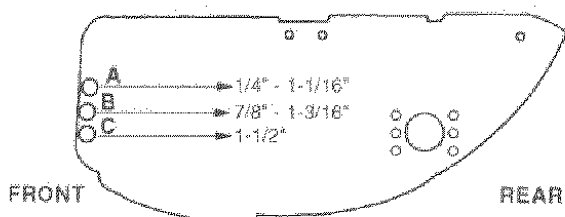
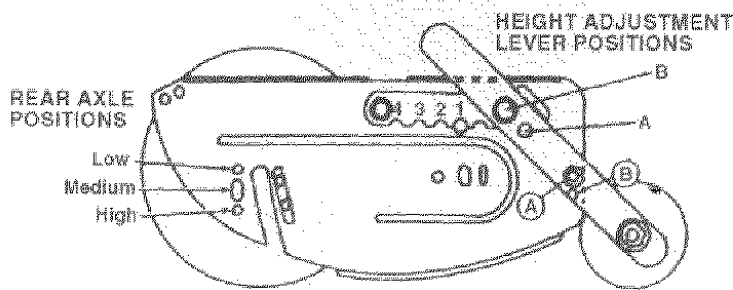

FIGURE 9: Use the front wheel assembly cutting height adjustment holes and height adjustment lever to set the cutting height of the mower.
FIGURE 10: Rear axle positions; height adjustment lever positions
Three holes in the mower side panels (see Figure 9) allow the position of the front wheel assembly bar to be changed to obtain the desired cutting height range.
Once the desired cutting range is set, the cutting height adjustment lever (see Figure 10) is placed in one of four preset positions (notch 1 through notch 4) to select the desired cutting height (see Table 1).
NOTE: When changing the position of the front wheel assembly, the "pivot point" locations of the cutting height adjustment lever must also be changed. When using adjustment hole "A" or "B" hole in the side panel (see Figure 9) for the front wheel assembly position, the "pivot point" locations for the cutting height adjustment lever (see Figure 10) must also be changed to the "A" or "B" positions, as appropriate. When using adjustment hole "C" in the side panel, the cutting height adjustment lever "pivot point" locations should be placed in position "B".
The mower is shipped with rear axle in the middle (medium) position, and the cutting heights listed in Table 1 are achieved with the axle in this position. The rear axle must be lowered to the high position (see Figure 10) to obtain the 1-1/2" cutting height.
4. Remove eight retainer bolts (12). Loosen eight hanger bolts (13).
5. Move the rear axle outward until the retainer bolt hole aligns with the high hole in the sideplate (see Figure 10).
6. Replace and tighten eight retainer bolts (12). Tighten eight hanger bolts (13).
7. Replace sideplate chain (21) and clutch drive chain (15).